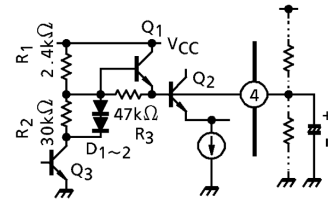

Fig.1 Internal circuit of pin④
Internal circuit of pin(4) is shown in Fig.1. Ripple filter output voltage is decided by internal resistor R1, R2 and Q3, and limited by D1~2 and Q3 to  $V_{RF} = 1.5V$  (typ.)